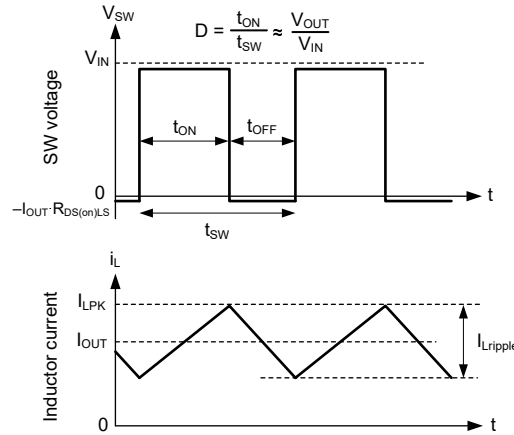

図 7-20. SW Voltage and Inductor Current Waveforms in Continuous Conduction Mode (CCM)
The following operating description of the converter refers to the Functional Block Diagram and to the waveforms in Figure 7-20. In CCM, the converter supplies a regulated output voltage by turning on the internal high-side (HS) and low-side (LS) NMOS switches with varying duty cycle (D). During the HS switch on time, the SW voltage,  $V_{SW}$ , swings up to approximately  $V_{IN}$ , and the inductor current,  $i_L$ , increases with a linear slope. The HS switch is turned off by the control logic. During the HS switch off time,  $t_{OFF}$ , the LS switch is turned on. Inductor current discharges through the LS switch, which forces  $V_{SW}$  to swing below ground by the voltage drop across the LS switch. The control loop adjusts the duty cycle to maintain a constant output voltage. D is defined by the on time of the HS switch over the switching period: